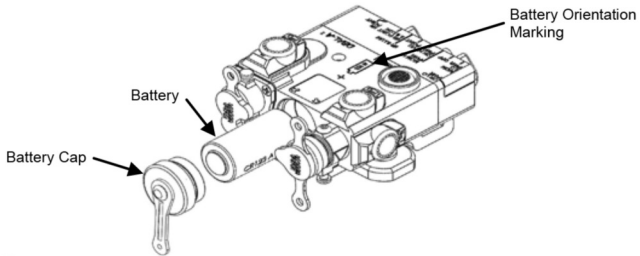

Figure 1. Battery Installation
1. Unscrew the Battery Cap (Figure 1) and install one battery (Figure 1) with the positive end facing out toward the Battery Cap (Figure 1). Proper battery orientation marking (Figure 1) is clearly marked on the AN/PEQ-15A housing.
2. Replace and tighten the Battery Cap (Figure 1) by turning clockwise.